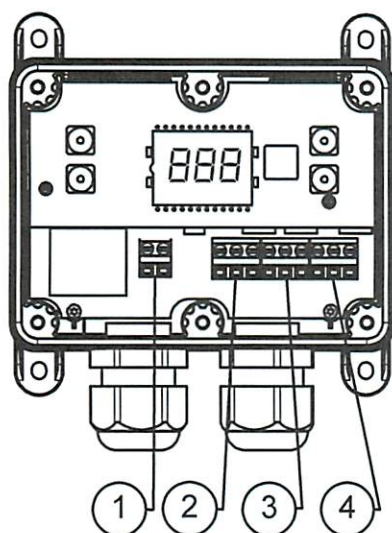
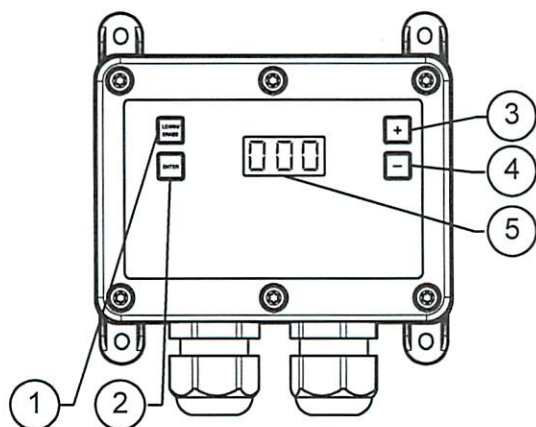

Figure 1. Sesam 800 RXD 115 VAC model connections
Figure 2. Sesam 800 RXD model display and buttons
The receiver is equipped with connections for relays, power and an external antenna (see fig. 1 and fig. 2).
The Sesam 800 RXD model has an integrated display that shows additional system relevant information (Fig. 2).
2. To select what memory position to use (memory positions can be 1-500) press the Memory Position UP or Memory Position DOWN buttons (see fig. 2). The left decimal on the display indicates whether the chosen memory position is already used.